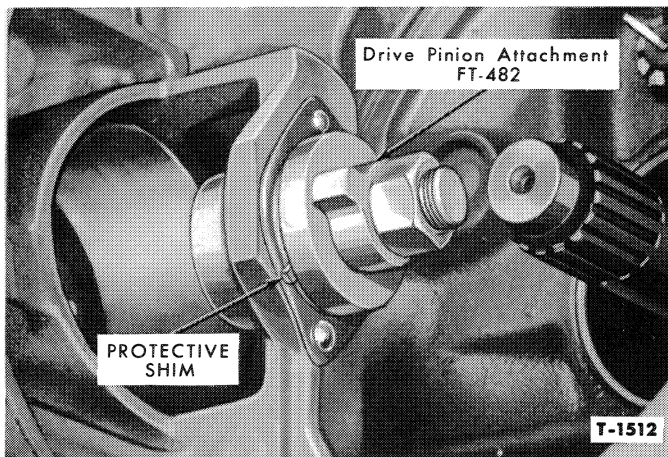

Figure 14—Installing Pinion Gear Pilot Bearing
2. Install the new bearing from the front of the bore. Use the drive pinion attachment shown in Figure 14 and pull the bearing into position by tightening the nut. Protect the retainer with a pair of shims positioned under the washer.